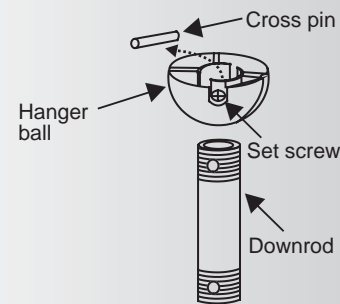

Fig. 7
- Step 4. Remove hanger ball from downrod assembly by loosening set screws, removing the cross pin, and sliding ball off rod. (Fig. 7)